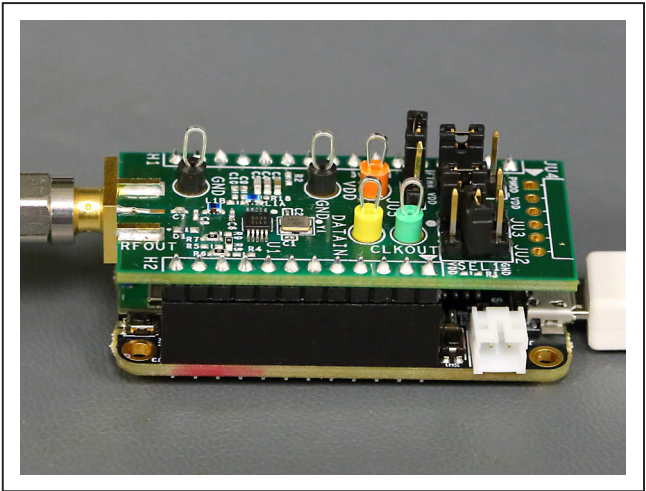

Figure 3. MAX4146x EV Kit Orientation to FTHR Board
2. **Connect the MAX4146x EV kit to the FTHR board,** be sure the USB connector is oriented on the opposite side of the SMA connector, as shown in Figure 3.
- Connect the MAX4146x EV kit to the FTTH Board,** be sure the USB connector is oriented on the opposite side of the SMA connector (see Figure 3).